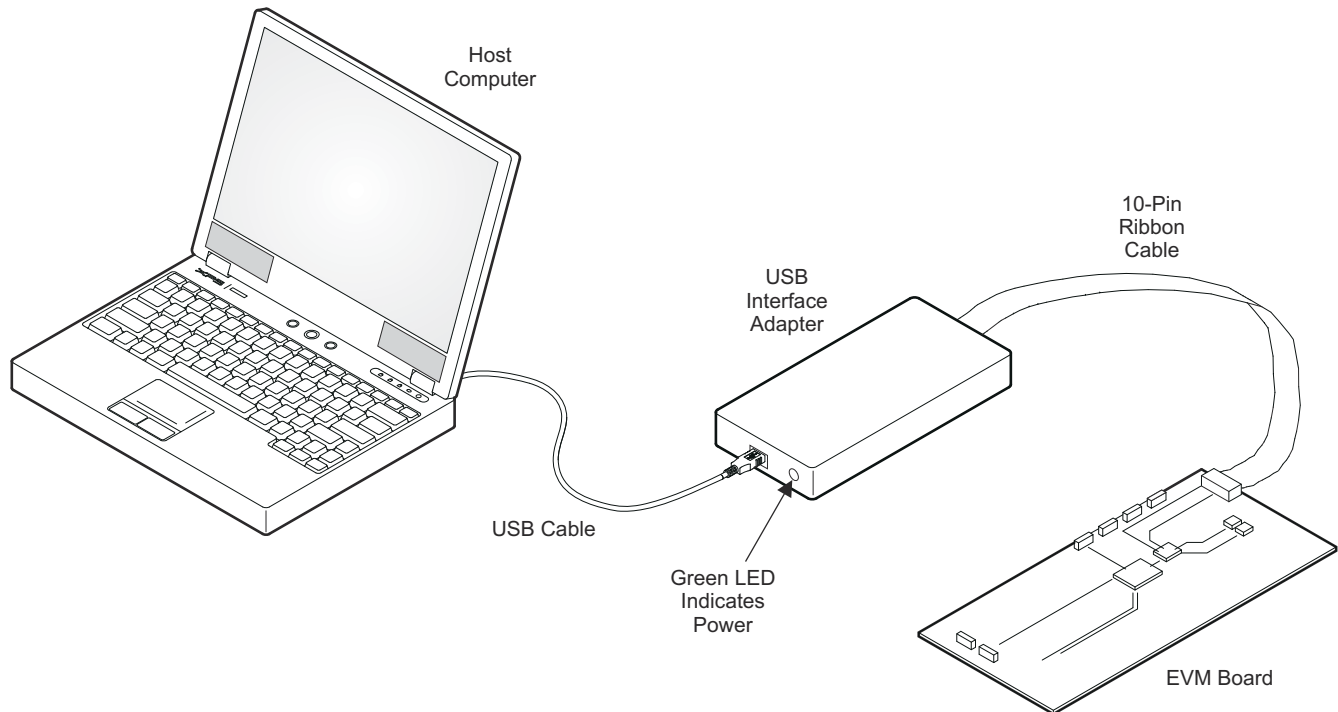

Figure 5-2. USB Interface Adapter Quick Connection Diagram
- Connect one end of the USB-TO-GPIO box to the PC using the USB cable and the other end to JP15 of the TPS65279V using the supplied 10-pin ribbon cable as shown in Figure 5-2. The connectors on the ribbon cable are keyed to prevent incorrect installation.